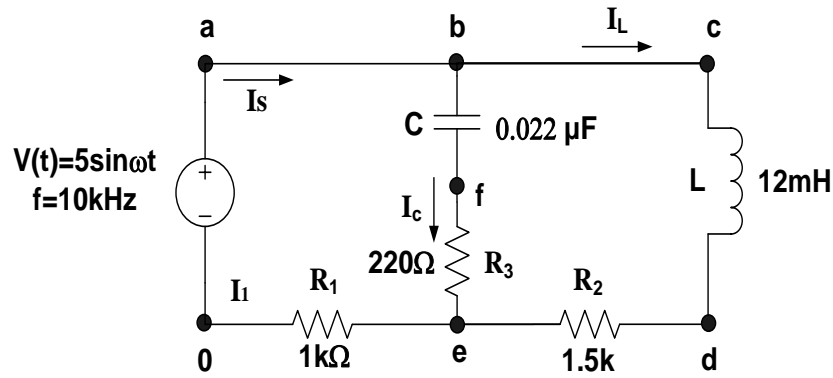

Figure 3:
- Change the position of resistor  $R_1$  to that shown in Fig. 3. This change will not affect the circuit. Connect Ch A to point 'a' and Ch B to point 'e'. Measure amplitude of the voltage across  $R_1$  ( $V_1$ ) from Ch B. Determine phase angle  $\theta_1$  of voltage  $v_1(t)$  with respect to generator voltage ' $v_1(t)$ '. Calculate the current  $I_s = I_1 = V_1/R_1$  and enter time domain expression for  $i(t)$  below.